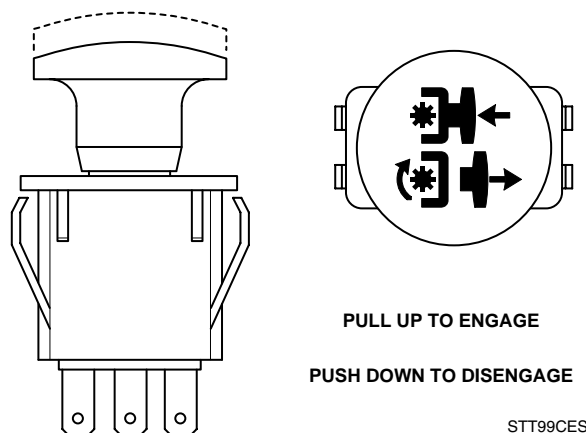

Figure 4-3 Cutter Deck Engage Switch
2. Engage the deck drive by pulling up on the yellow switch, located on the instrument panel, (Figure 4-3) to the engage position.